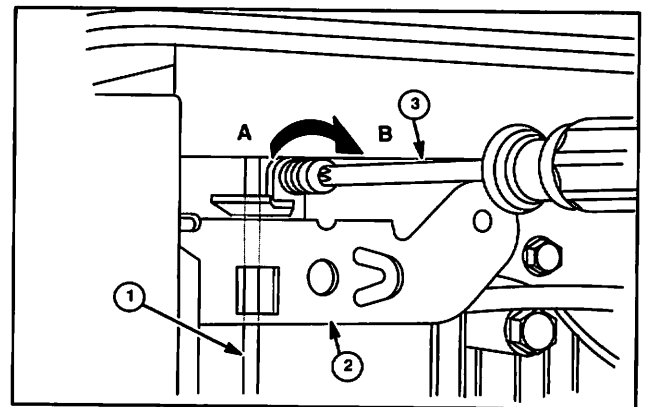

Fig. 56
1. Place throttle in fast position and insert a 1/8" (3.18 mm) rod (1) through holes in carburetor control bracket (2) and lever.
2. Start engine and use #20 Torx® driver (3) to adjust Top No Load RPM by turning screw clockwise to decrease (B) or counterclockwise to increase (A), Fig. 56.